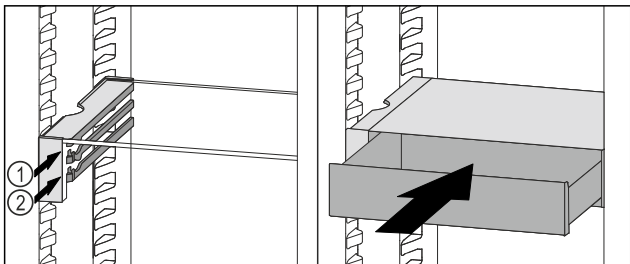

Fig. 126
- ▶ Place the VarioSafe drawer behind the stoppers on desired rib Fig. 126 (1) or Fig. 126 (2).